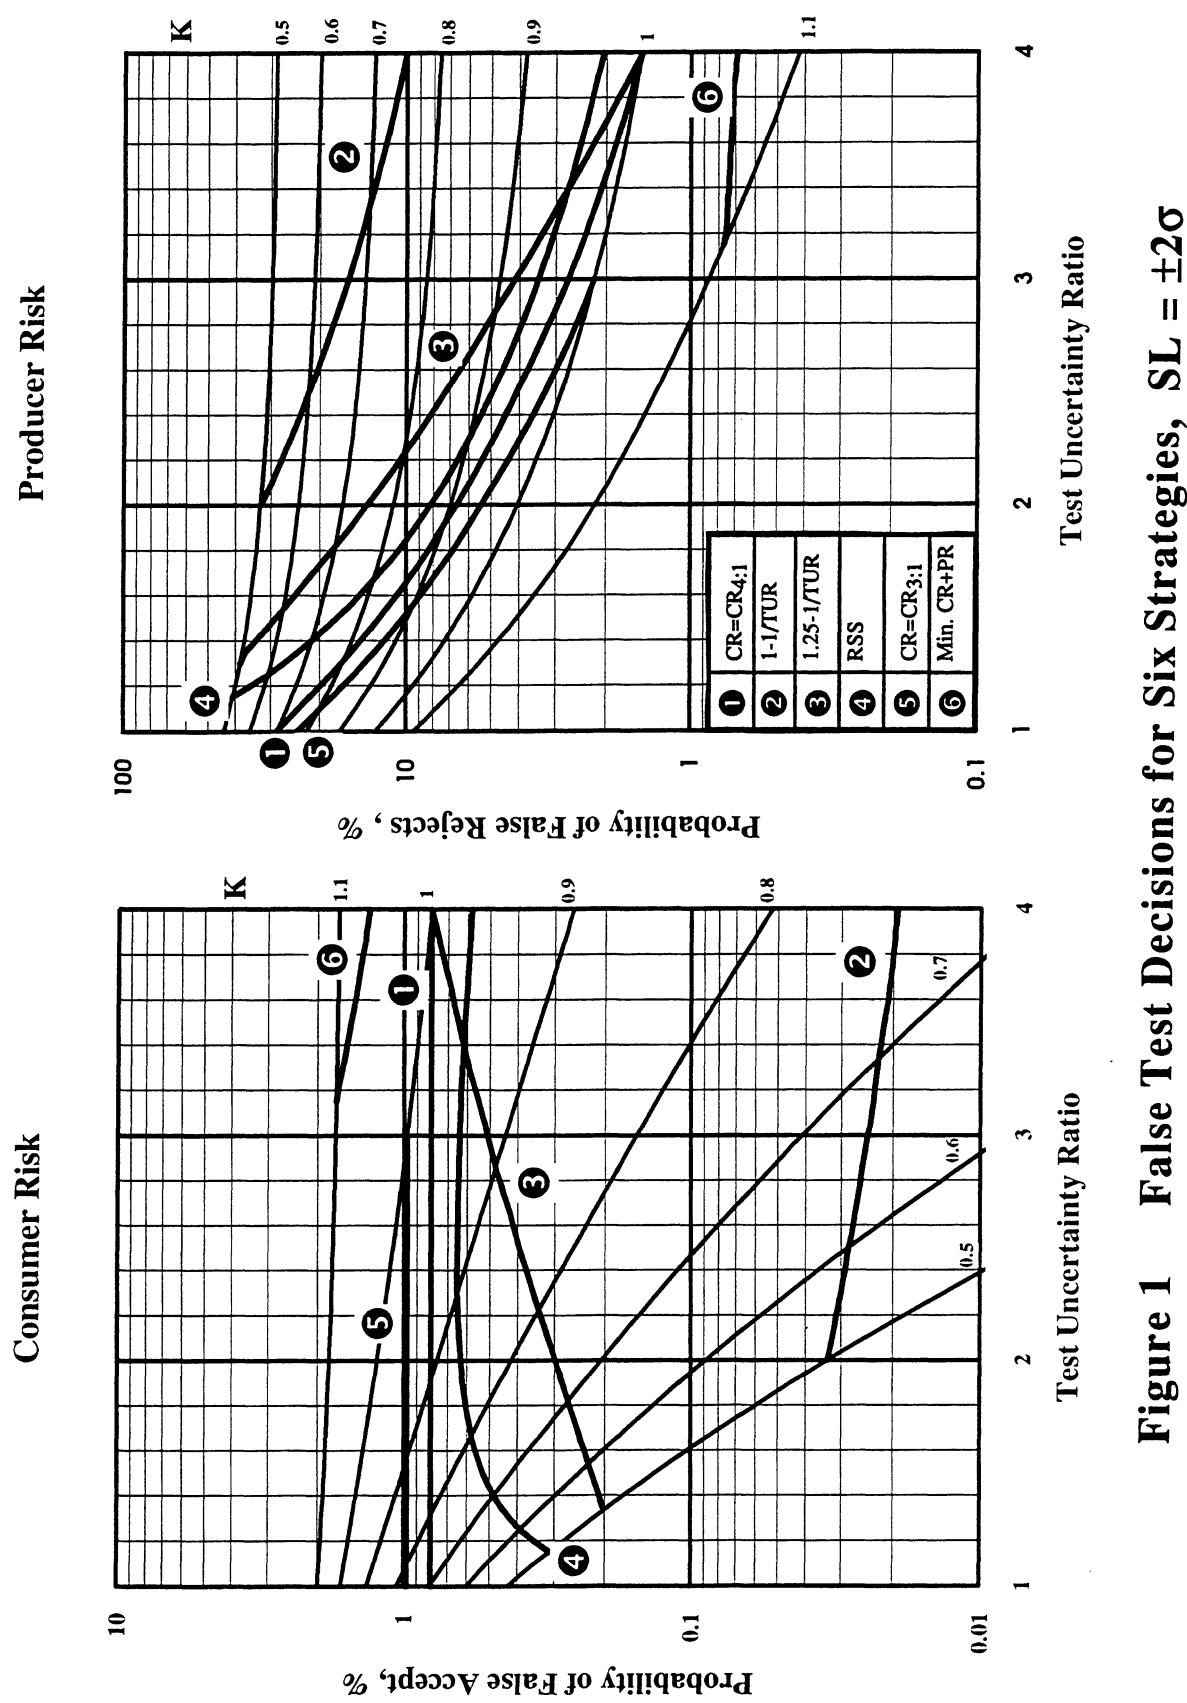

Figure 1 False Test Decisions for Six Strategies, $SL = \pm 2\sigma$
In a previous paper ¹, charts and graphs were presented which showed the risk of false test decisions as a function of TUR, confidence level and a guardband factor (K) which was defined as a multiplier of the specification limit (SL) to produce the test limit (TL); that is, $TL = K * SL$. The charts assume that the distribution of expected readings from the standards and the units under test (UUTs) are reasonably normal, have symmetric specification limits, and that systematic biases have been corrected. This paper will use that data to examine and compare the risks associated with a number of strategies being used today. The strategies are compared in Table 1 for TURs of 2:1 and slightly less than 4:1. Figure 1 plots the false accept and false reject risks for each of the strategies for a $\pm 2\sigma$ confidence interval to allow the strategies to be visually compared. Figures 2-6 chart the guardband factors for the various strategies as a function of TUR for confidence intervals from $\pm 1\sigma$ to $\pm 3\sigma$.
① $CR = CR_{4:1}$
Figure 1 shows the risk of false test decisions for the various strategies. This strategy, for a $\pm 2\sigma$ confidence interval, is shown as a horizontal line at 0.8% risk of accepting defective units. The penalty of maintaining the same risk as a 4:1 TUR is that more conforming units are rejected as shown in the graph on the right of Figure 1. At a TUR of 2:1, we could expect to reject good units at about a 4% rate when tested to the specification limits. Curve 1 shows that, when the false accept rate is maintained at 0.8%, the false reject rate would be expected to increase to nearly 7%. Curve 1 on each of the left graphs in Figures 2-6 shows the value of K as a function of TUR required to implement this strategy. Each figure is plotted for a different confidence interval. Most of the literature assumes a confidence interval of $\pm 2\sigma$. However, there is considerable variation in how conservatively products are specified so curves are presented for confidence intervals from $\pm 1\sigma$ to $\pm 3\sigma$.
⑥ Minimize: $CR + PR$
Ultimately, the purchaser of equipment must bear the cost of all false test decisions; both those due to consumer risk (CR) and those due to producer risk (PR), assuming that the producer plans to stay in business. This strategy selects guardband factors which minimize the total risk, the sum of CR and PR. Grubbs and Coon derived the condition necessary for this situation and showed the interesting result. To minimize the total risk of false test decisions, the test limits are set *outside* the specification limits! As can be seen from the curves in Figure 1 and Figure 4, for a confidence interval of $\pm 2\sigma$ and a TUR of nearly 4, the test limits would be set about 6% greater than the specification limit. To minimize the risk of making a false test decision for an instrument having a specification of 0.5%, the test limits would be set to $\pm 0.53\%$. This alternative is not very palatable to most metrologists, however, and the argument is immediately raised that the consequences of a false accept is generally much greater than for a false reject.